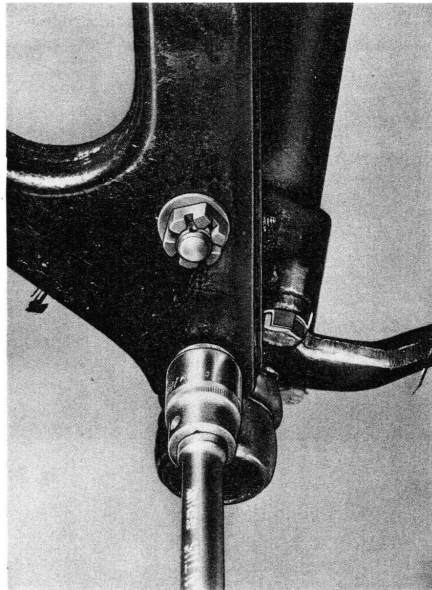

Fig. 9
7. Install castellated nuts in transverse control arm and torque to 7, 5 mkp (54, 2 lb/ft); use washers, secure with cotter keys (see Fig. 9).